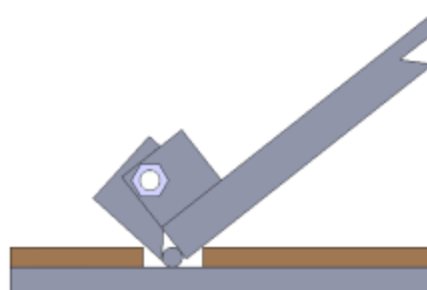

Fig.16
3. To lower lift: Press the button UP, until the safety lock is in the released position (**See Fig.16**), lower lift by pushing lowering handle.
4. Move lift: Pull up roller bracket, lock two roller to the lift with roller shaft. (**See Fig. 16& 17**). Moving the lift by the power unit stand.